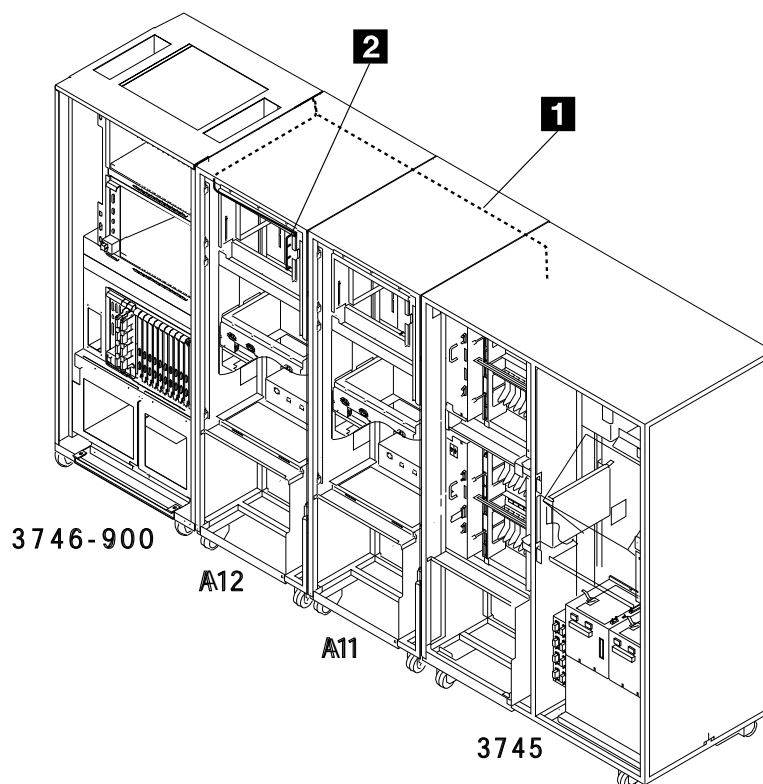
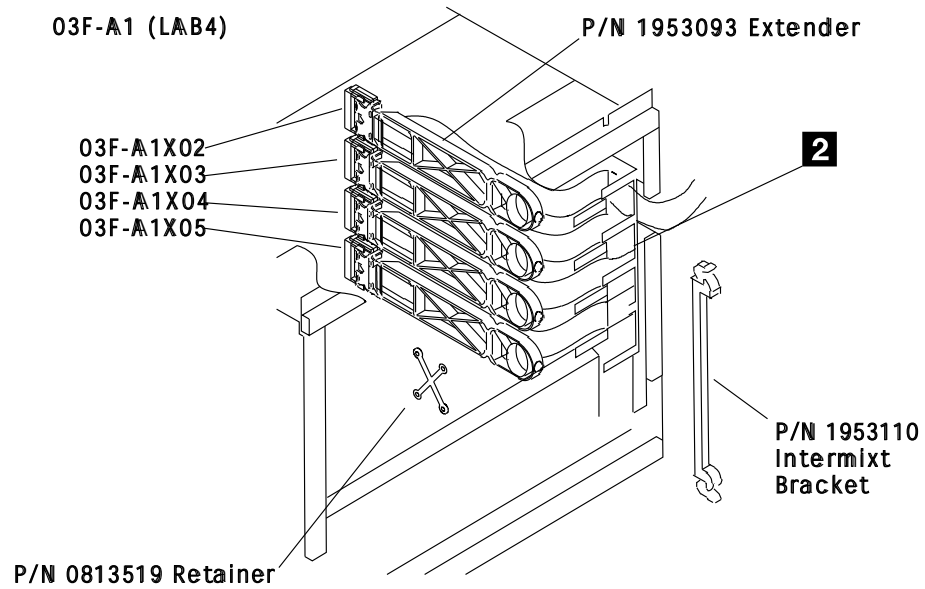

Figure 4-33. Cabling From the 3746-900 to the 3745 and 3746-A12 (Rear View)
Figure 4-34. IOC Bus Cable Routing in the 3746-A12
- Step 1. ____ At the top right rear of the 3746-A12, locate the LAB4 board in 03F-A1 (see Figure C-5 on page C-4 for location) and remove the upper cover. Using a screwdriver, pry off the EMC gasket from the right side of the board enclosure (see Figure 4-34 on page 4-35).
- Step 4. ____ Unroll and route these IOC cables **2** through the upper side windows from the 3746-900 to the 3746-A12 at board 03F-A1 (see Figure 4-33 on page 4-34). Fold the cables going to X02, X03, X04 and X05 according to the **black** fold marks on these cables. Clamp cables in raceways using retainers PN 0813519 (see Figure 4-34 on page 4-35). Plug cables **2** into their respective positions.
- Step 5. ____ Secure the cable extenders using an intermix bracket PN 1953110 (see Figure 4-34). On the board's right side, re-install the EMC gasket previously removed.